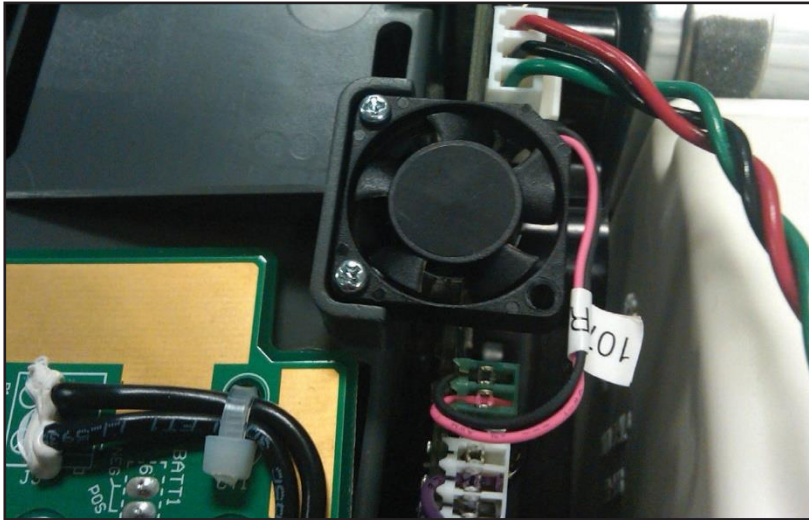

Fig 53: Cooling Fan placement
1.8 Install the Cooling Fan (PN: 1074-SEQ) with the 2 screws (PN: 6961-210-SEQ) and lightly tighten as shown in Fig 53. Apply Loctite 425 thread locker on the tips of the threads before installing.